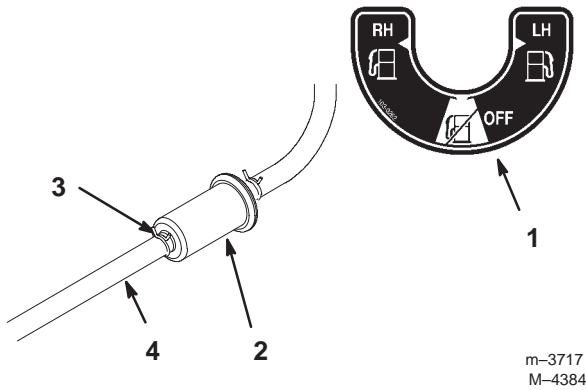

Figure 37
5. Install a new filter and move the hose clamps close to the filter (Fig. 37).
2. Close fuel shut-off valve (Fig. 37).
3. Loosen the hose clamp at the fuel filter and slide it up the fuel line away from the fuel filter (Fig. 37).
4. Pull the fuel line off fuel filter (Fig. 37). Open fuel shut-off valve and allow gasoline to drain into a gas can or drain pan.
5. Install the fuel line onto the fuel filter. Slide the hose clamp close to the fuel filter to secure the fuel line (Fig. 37).